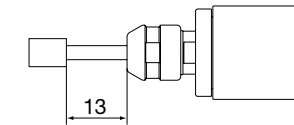

Fig. 45
- (2) Do not exceed 13mm overhang for mounted grindstones. In case overhang must exceed 13mm reduce the motor speed in accordance with Fig. 45 and Table 5.
- (3) Do not use tools with bent or broken shanks, cracks or excessive runout.
- (4) Dress the grindstone prior to use.
- (5) For grinding the maximum depth of cut should not exceed 0.01mm radially or axially. Reciprocate the tool several times after each in feed step.
- (6) Always operate tools within the tool manufacturer's recommended speed limits. Use of a tool outside of the manufacturer's recommended speed limits could cause damage to the spindle and injury to the operator.
- (7) Keep the tool shank and collet clean. If contaminants are left in the collet they can cause excessive runout and damage the tool and spindle.
- (8) Do not drop or hit spindle.